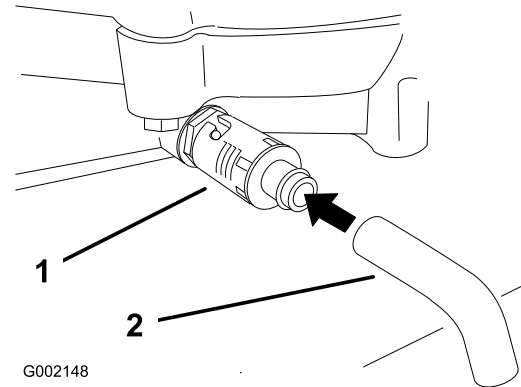

Figure 21
4. Place a pan below the drain. Rotate oil drain valve to allow oil to drain (Figure 21).